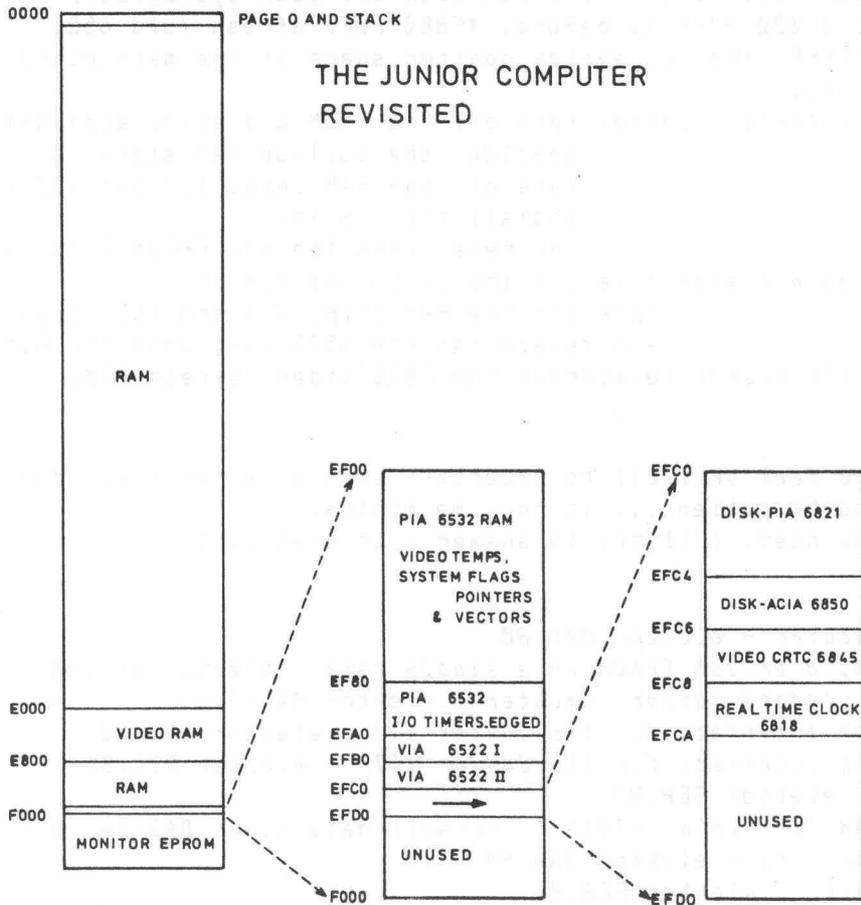

figure.2 - a new memory map for the Junior: a maximum clear-up of the user RAM, and a condensed I/O page.
But if you really want to clean the RAM up to \$DFFF, the solutions follow. See fig.2 for the memory map we're going to get.
A - MODIFICATIONS ON THE MAIN BOARD (ref.1, fig.2); fig.3.